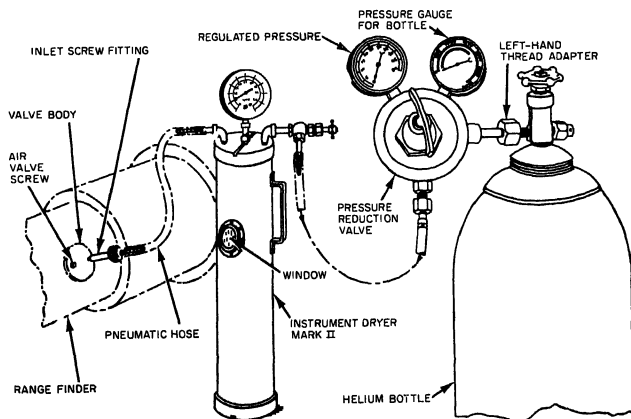

Figure 8-14.—Setup for charging.
Figure 8-14 shows a typical setup for purging, pressure-testing, and charging an optical instrument. In this illustration, a rangefinder is being
- Connect the hoses and the instrument dryer together as illustrated in figure 8-14. Make sure the hose from the regulator is attached to the inlet side of the dryer.